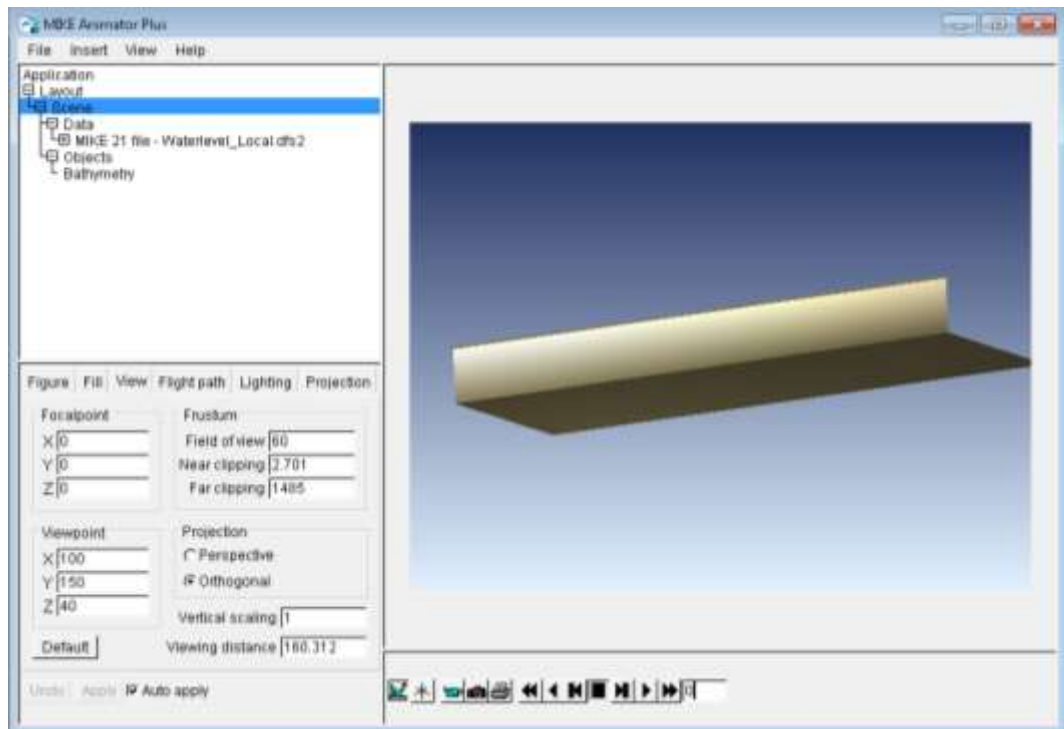

Figure 3-31 Defining View settings in MIKE Animator Plus
5. Select the 'View' tab and change the Focalpoint parameters to (0,0,0) and the Viewpoint parameters to (100,150,40) as shown in Figure 3-31.